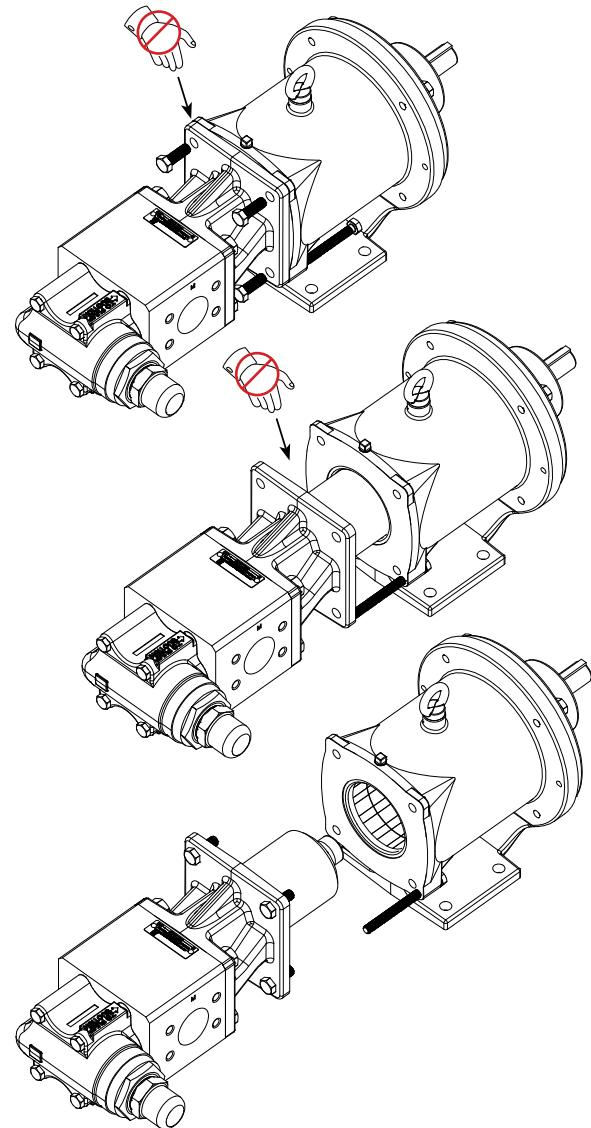

FIGURE 18
Use extreme caution, when pulling the inner magnet away from the outer magnet (See Figure 18, page 11). Do not place your fingers between the pump mounting flange and the face of the bracket. If you do not completely pull the pump out it will snap back and could pinch a finger or hand. Once the inner magnet is removed from the bracket be careful setting it down as it will attract any iron or steel object.
1. Remove the piping to the ports and remove the capscrews securing the pump to the bracket. Support the pump with an overhead hoist if possible. Use the M10 x 120 capscrew (jackscrew) in the bracket to separate the inner magnet from the outer. (See **Figure 18**).
Use extreme caution, when pulling the inner magnet away from the outer magnet (see **Figure 18**). Do not place your fingers between the pump mounting flange and the face of the bracket. If you do not completely pull the pump out it will snap back and could pinch a finger or hand. Once the inner magnet is removed from the bracket be careful setting it down as it will attract any iron or steel object.